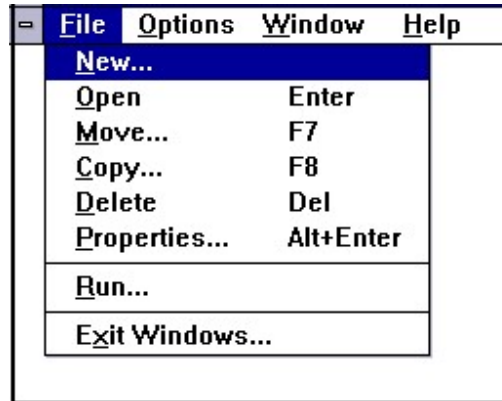

Figure 1.
- ✿ 3. CLICK on FILE or press ALT + F (see Figure 1)